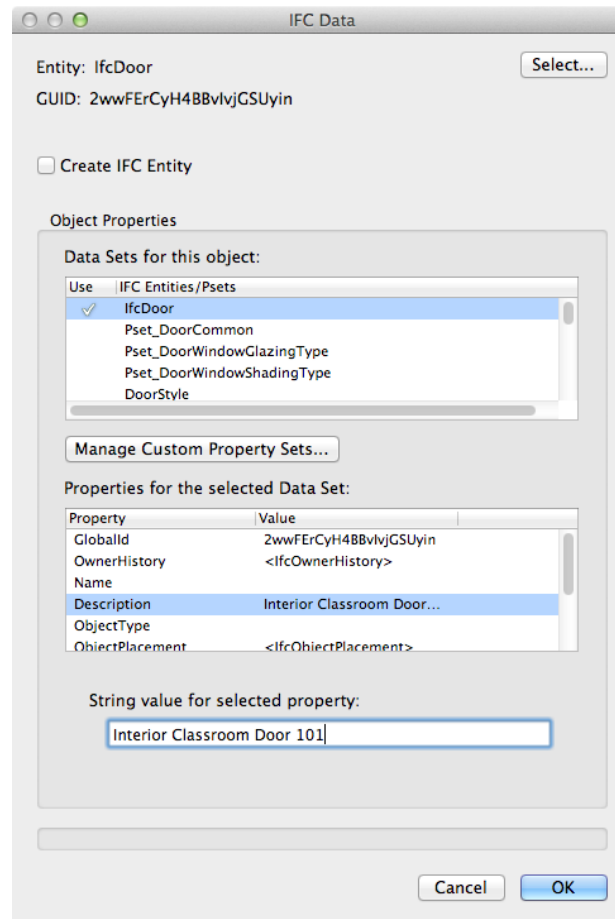

Figure 4 – “IFC Data” dialog box.
3. Select the IFC object type and click OK. The IFC Data dialog box opens (Figure 4). Under “Object Properties,” select the Property Set to assign to the IFC object by adding a check mark under the “Use” column. You can select multiple Property Sets. If you are attaching a custom property set, select the “Manage Custom Property Sets...” button (see the Custom Property Sets section for more information).
To enter the desired values for the properties of the selected Data Set, use the second window to select the property and the “String value” field (see Figure 4).